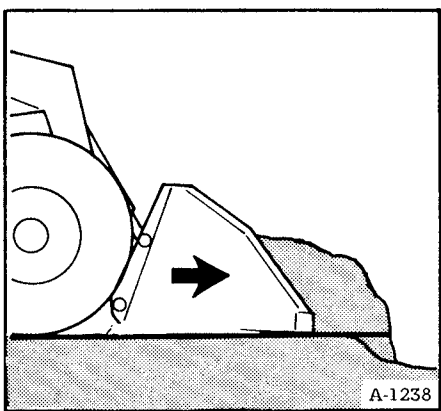

Fig. 21 Filling Holes
3. Figure 21 shows filling a hole in rough ground.